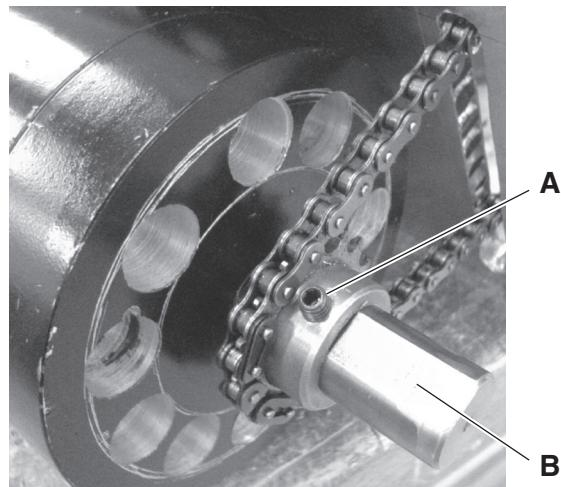

Fig. 2
- (d) Fig. 2 shows an electric motor with a chain and sprocket drive.
- (i) Draw on Fig. 2 to show the **pitch** of the chain.
Fig. 2 shows holes that have been machined in the electric motor casing. There are a similar number of holes at the other end of the motor.